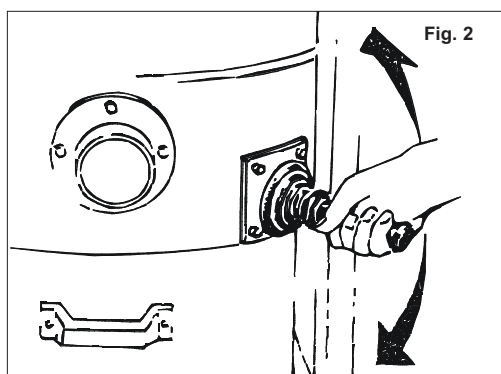

Fig. 2
4.3 Using the filter shaker (Fig. 2)